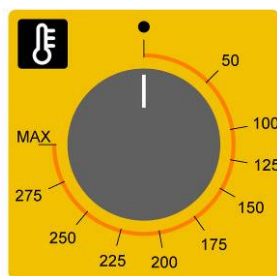

Fig. 4
**Programming cooking temperature** - Turn the knob of the adjustment thermostat (Fig. 4) in line with the temperature selected for cooking.